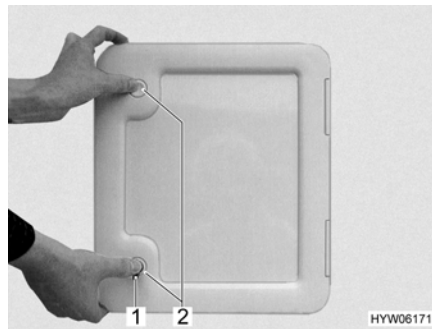

Fig. 16 Flap for sewage tank
- Insert key into locking cylinder (Fig. 16,1) of the push-button lock and turn a quarter turn.
- Press both push-button locks (Fig. 16,2) simultaneously with your thumb and open the flap for the sewage tank.
- Insert key into locking cylinder (Fig. 16,1) and turn a quarter turn.